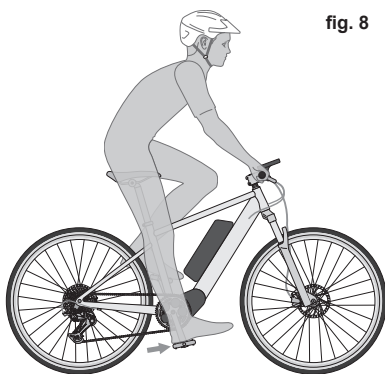

fig. 8
- Up and down adjustment.** To check for correct saddle height (**fig. 8**):